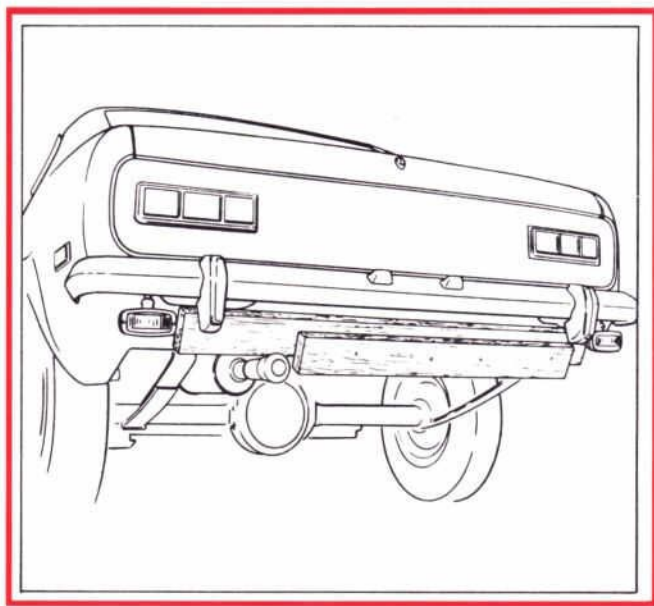

Figure 6—Wood Adapter Placed in Proper Position
2. Install the tow truck sling hooks on the rear axle and position the wood device flush against the lower back panel and under the rear bumper as shown in Figure 6.